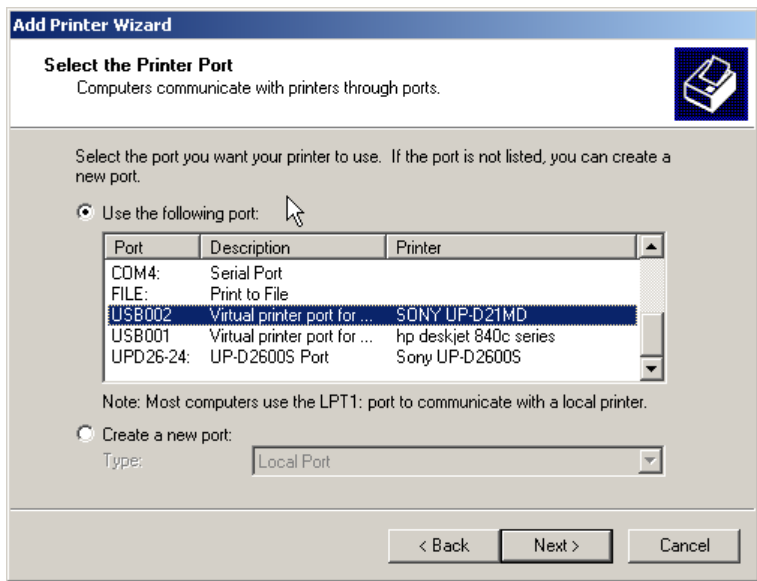

Figure 3-23 Select Printer Port
- 9.) Select the corresponding Printer Port (e.g., Figure 3-23 Sony UP-D21MD = USB002) and click NEXT.